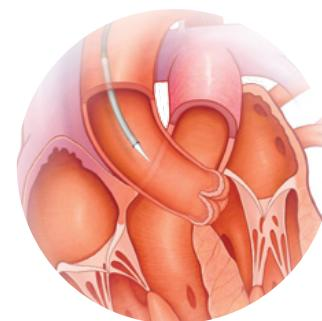

Figure 1
5. Again, using the special imaging equipment, your doctor will place the CoreValve aortic heart valve in position over your own diseased aortic valve. (Figures 1 and 2)